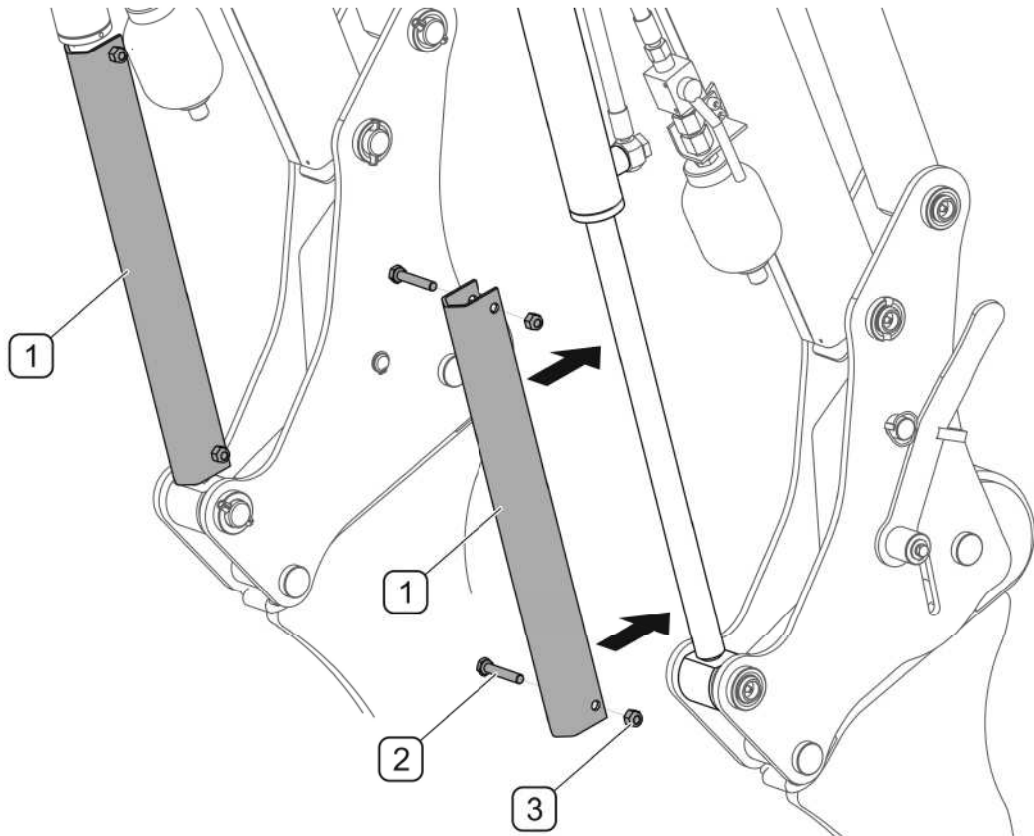

FIG. 5.1A Service interlock
Service interlocks (1) are used to lock the arm in the raised position (FIG. 5.1A). Use service interlock during maintenance, servicing or repair of the loader. Service interlock can be used only if the loader arm is suspended on the support frame.